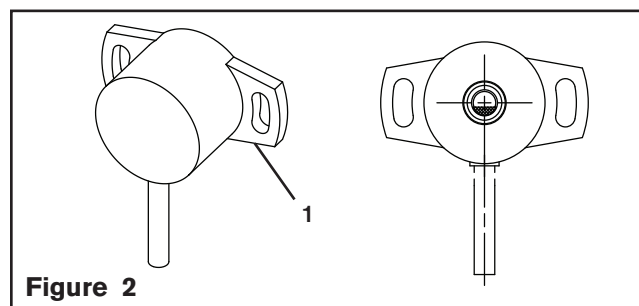

Figure 2
3. The orientation of the Dancer Position Sensor (Item 1) must be as shown in order to match the mid output of the Dancer Position Sensor to the mid travel position of the dancer arm (See Figure 2).
Dancer Position Sensor misaligned	Align the Dancer Position Sensor according to Figure 2 for Mid Point of Output and according to the instructions in the INSTALLATION and ADJUSTMENT sections.